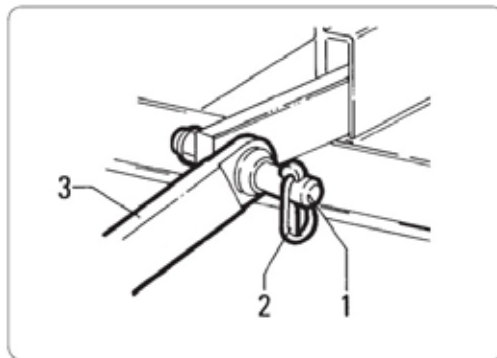

fig. 4.2.1
- Reverse the tractor towards the mower, aligning the tractor lift links with the two side coupling pins "1" fig. 4.2.1.
- Fix them in place by means of the relative safety pins "2" fig. 4.2.1.